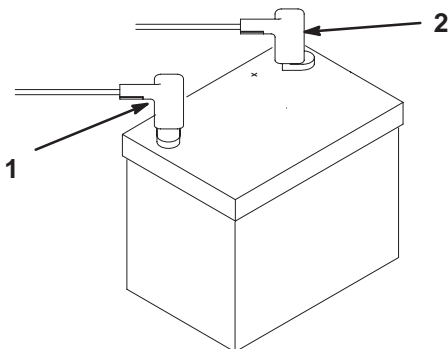

Figure 3
2. Connect the positive battery cable (red) from the starter solenoid to the positive post (+) of the battery (Fig. 3). Secure it with a wrench and coat the terminal with petroleum jelly. Make sure the cable will clear the seat, in the rear-most position, which could cause wear or damage to the cable.